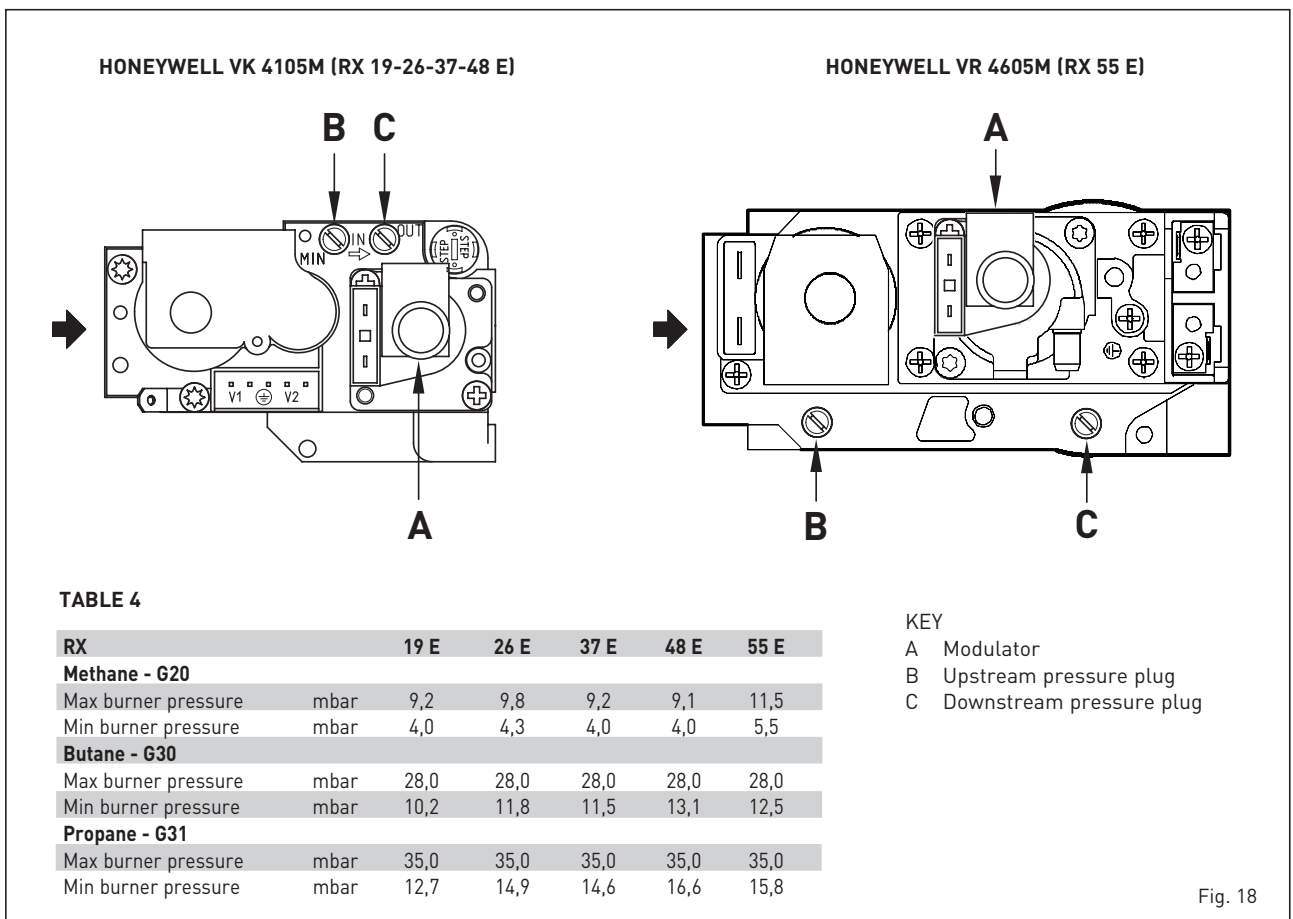

Fig. 18
4.1 GAS VALVE (fig. 18)
- Connect the column or a manometer to the pressure tap downstream of the gas valve (C Fig. 18).
- Remove the cap (1) of the modulator.
the nut (3) and search for the maximum pressure value given in **Table 4** (Fig. 18).
- Lock the nut (3) and turn the screw (2) to find the minimum pressure indicated in **Table 4** (Fig. 18).
- Replace the plastic cap (1) on the modulator and possibly seal it with drop of color.